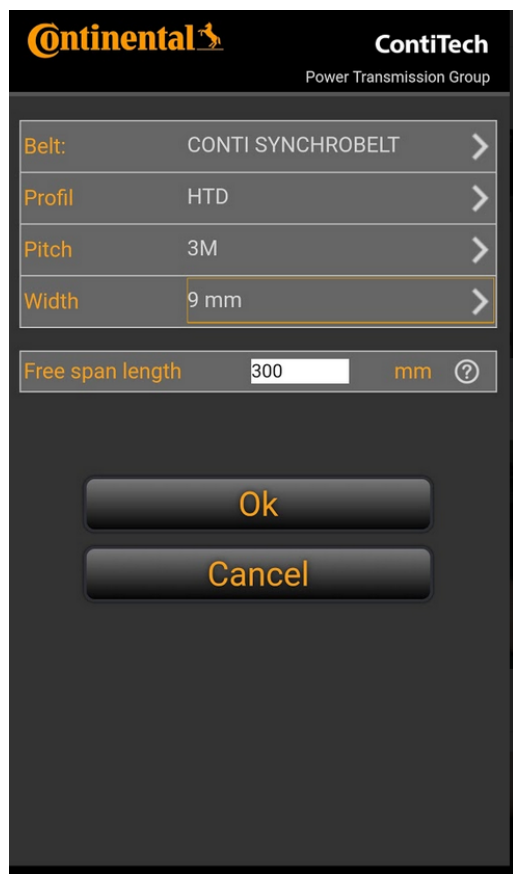

Fig. 36 Setting the parameters in the “Please select belt” tab of the Tension2Go app
- Set the parameters in the selected tab according to the image and confirm by pressing the “OK” button (Fig. 36).